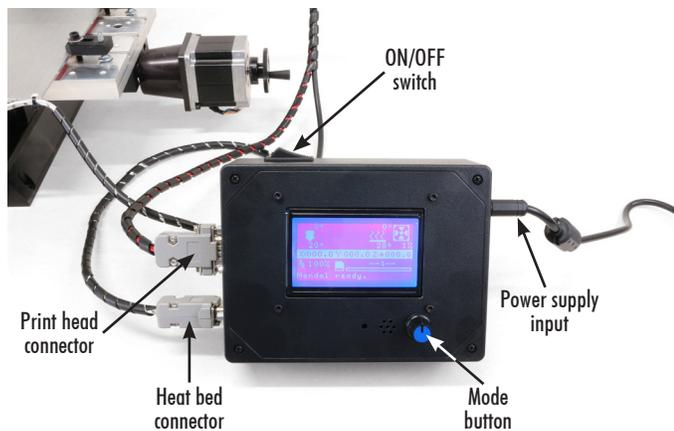

FIGURE 4
4. Control box and cable connections. (see Figure 4)
UBUNTU FIGURE 4